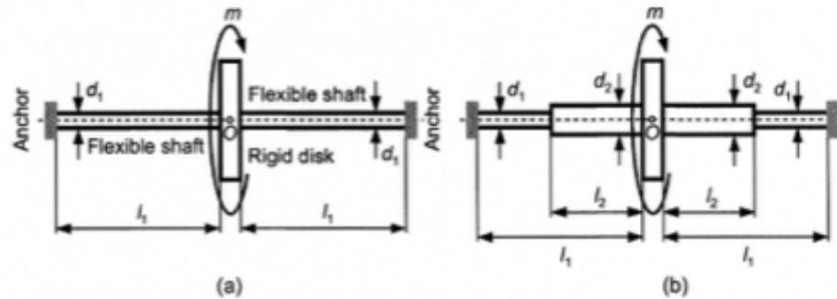

FIGURE 2.38
- 2.4 Two identical elastic shaft segments are connected to a rigid disk acted on by a moment m , as illustrated in Figure 2.38(a). To reduce the rotation angle at O by 40%, the design of Figure 2.38(b) is used instead of the original one. Assuming all shaft segments are built from the same material and have constant circular cross sections, express the diameter d_2 in terms of the diameter d_1 , and the lengths l_1 and l_2 . Also calculate the value of d_2 for $d_1 = 0.012$ m, $l_1 = 0.24$ m, and $l_2 = 0.16$ m.